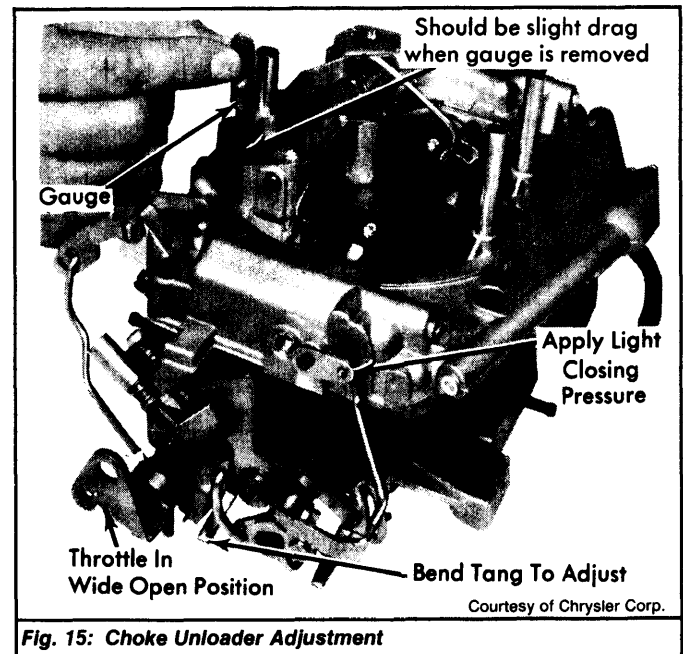

Fig. 15: Choke Unloader Adjustment
1) Open throttle valves wide open. Apply light closing pressure on fast idle cam lever to close choke valve. See Fig. 15.